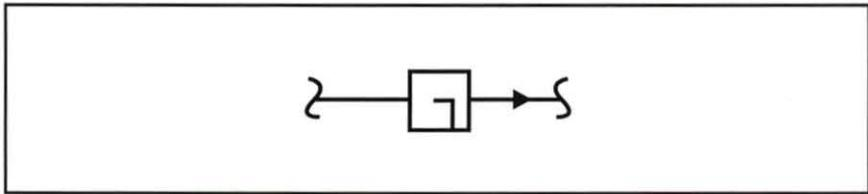

Figure 51. Flow Sensing Element Symbol
5. Determine what type of flow sensing element symbol is shown in figure 51.